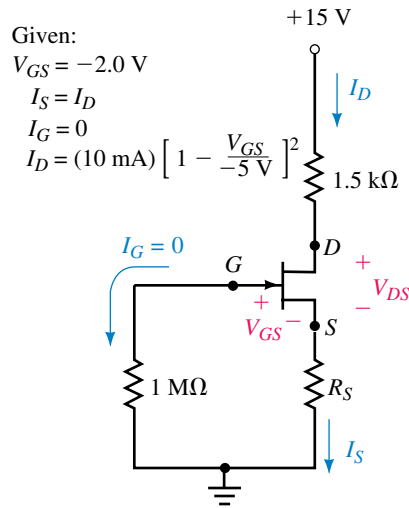

FIGURE 7-65
23. Consider the circuit of Figure 7-65 and the indicated values: